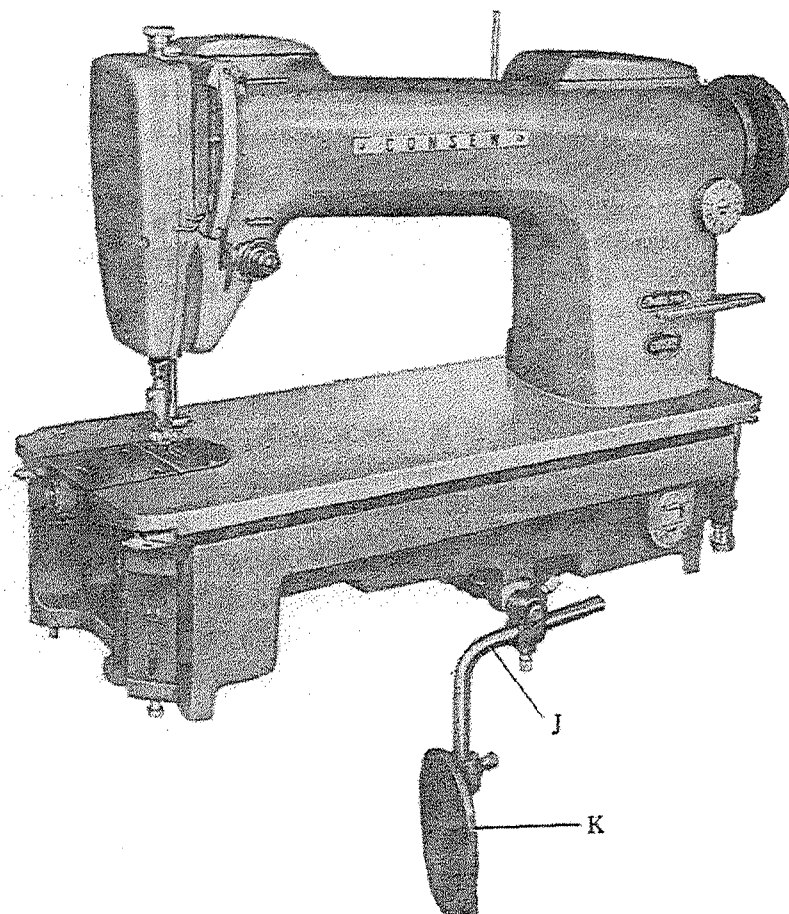

Fig. 13
The knee lifter mechanism is assembled to the oil pan of the machine except that for shipping purposes lever (J) and knee pad (K) are disassembled. After the oil pan has been positioned in the table top and the head set in place and locked to the oil pan, insert lever and knee pad as shown in Fig. 13. Tighten their respective set screws when in most comfortable position for the operator. While lever (J) is shown inserted from the left, it can also be inserted from the right whenever more knee space is desired. Set stops of knee lifter mechanism so that there is only little play before it starts to lift the presser foot and to allow raising of the presser foot all the way but not beyond the maximum. This will avoid any possible strain on the lifter mechanism and the related parts of the head itself.